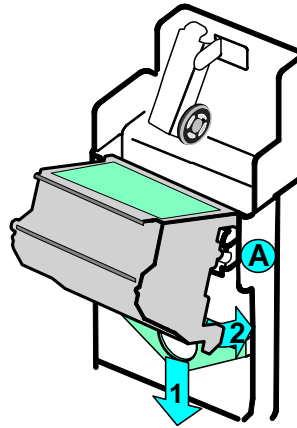

Figure 4-20: Secure the printhead cartridge
- i** The notches on the printhead cartridge should align with the notches on the spring bar (A in Figure 4-20).
- 6 Hold the printhead cartridge latch lever down (step 1 in Figure 4-20) and pivot the printhead cartridge down toward the swing arm (step 2 in Figure 4-20). Release the latch lever when the printhead cartridge is in place.